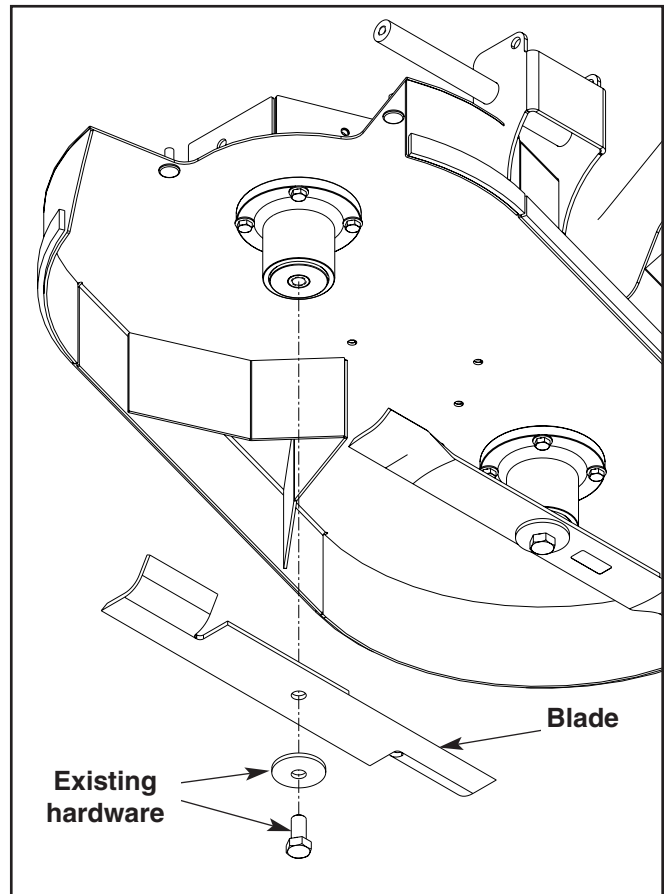

Figure 2
3. Remove the right side blade and replace with blade (Ref. #1) using the existing hardware. Torque blade bolt to 118 ft.-lbs. (160.01 Nm) Fig. 2 & 13